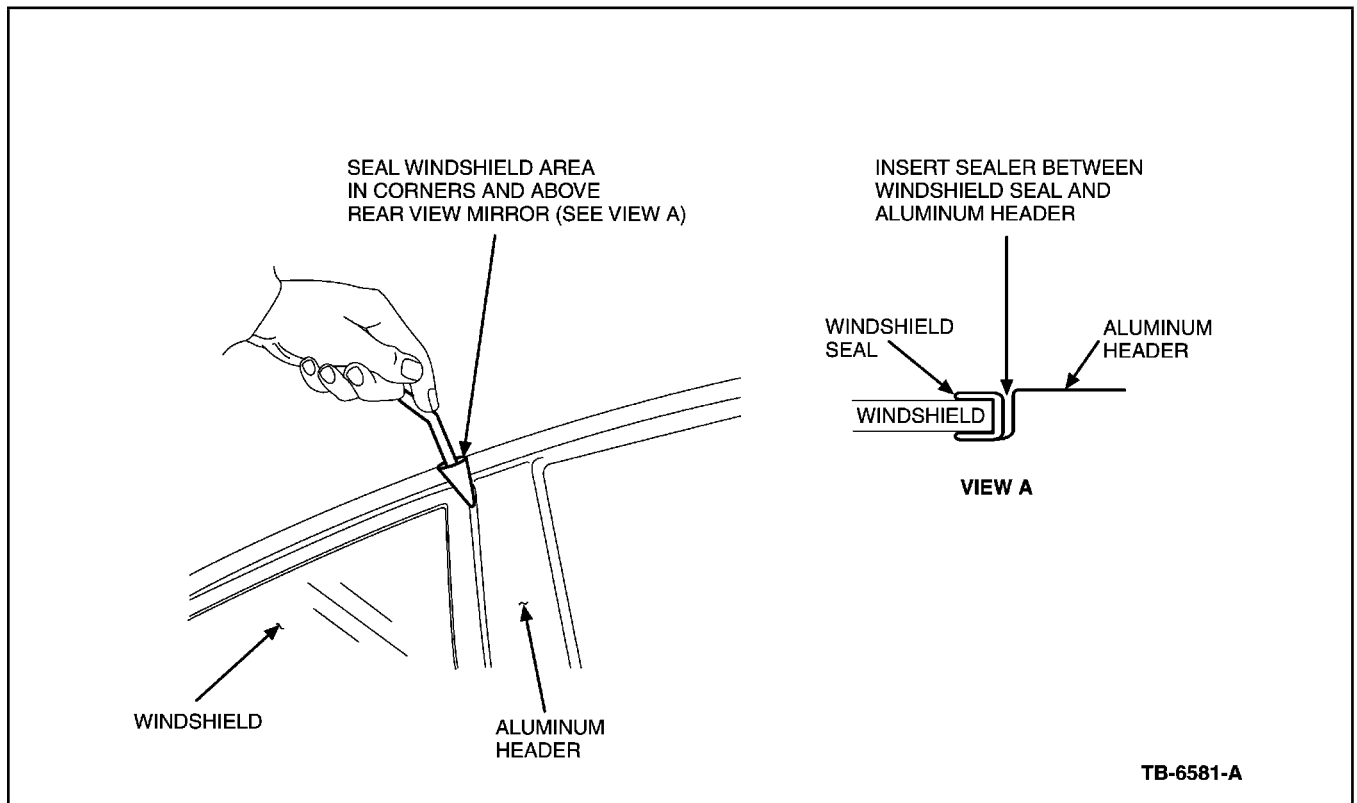

Figure 6 - Article 02-6-4
16. Seal the upper edge of the windshield, and above the rear view mirror, using 3M Windo-weld flow grade resealant p/n 08994. Inject the resealant between the rubber windshield seal and the aluminum header (Figure 6).